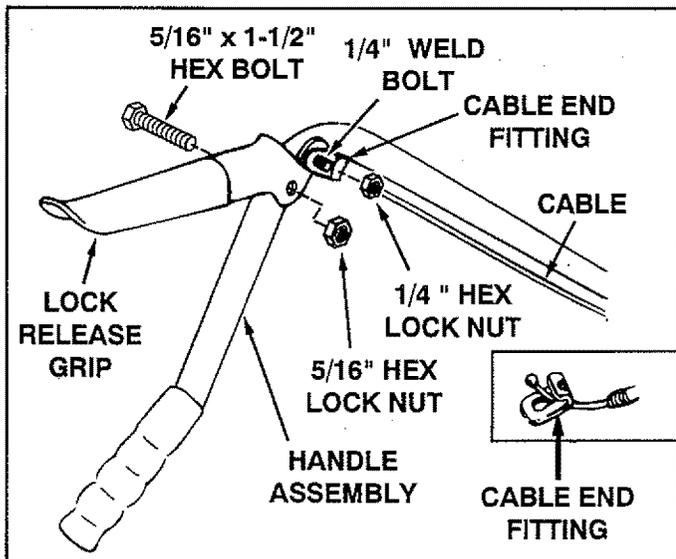

FIGURE 28 (Right Hand Side View)
- Attach lock release grip assembly to handle assembly using one 5/16" x 1-1/2" hex bolt and one 5/16" hex lock nut. **Do not overtighten** lock nut; grip assembly must pivot freely. See figure 28.
- Assemble ball end of cable to a cable end fitting as was done previously to other end of cable. Secure cable end fitting to weld bolt on lock release grip with a 1/4" hex lock nut. **Do not overtighten** lock nut; cable fitting must pivot freely. See figure 28.